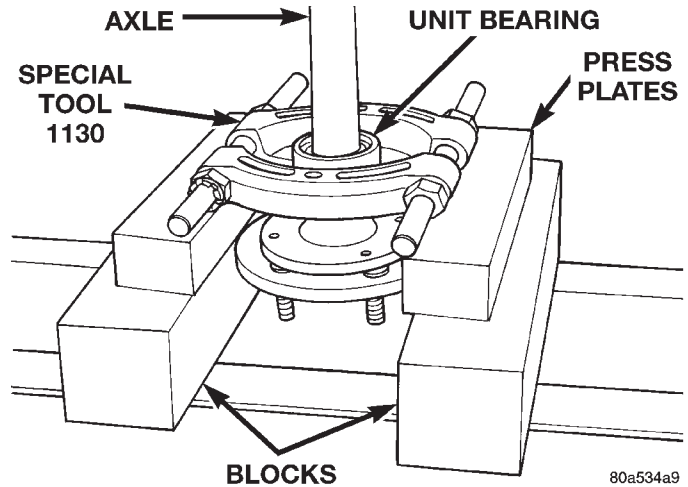

Fig. 27 Axle Bearing and Seal Remove
- (4) Slide retaining ring from axle shaft.
- (5) Using Splitter 1130 placed between the seal and bearing and a suitable Arbor Press, press unit bearing from axle shaft (Fig. 27).